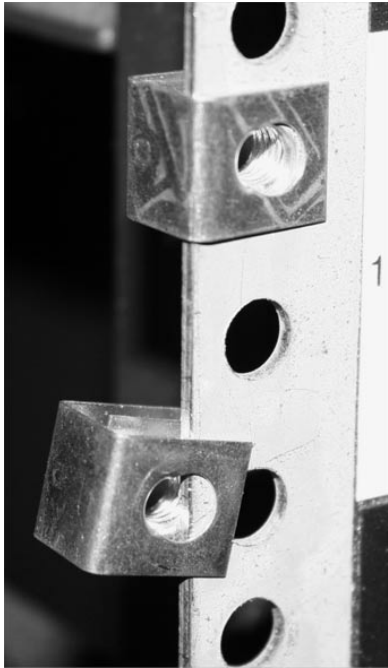

Figure 24. Positioning the clips
2. Position the four “C” clips in the rack’s mounting bar, as shown in Figure 24 on page 34.